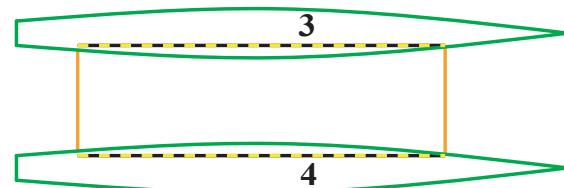

Fig. 24
Step 1. Delete Lines 3 and 4, Fig. 24. Select lines to delete and press Delete key.